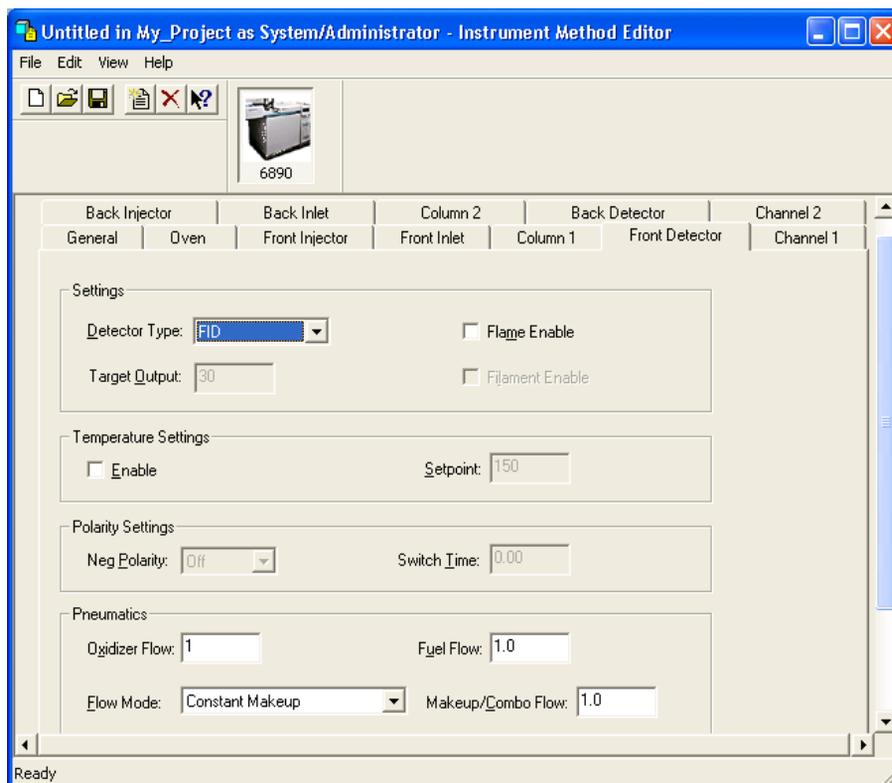

Figure 3-8 Instrument Method Editor, 6890, Front Detector Tab
- Click the **Front Detector** tab. The Front Detector tab appears (Figure 3-8).